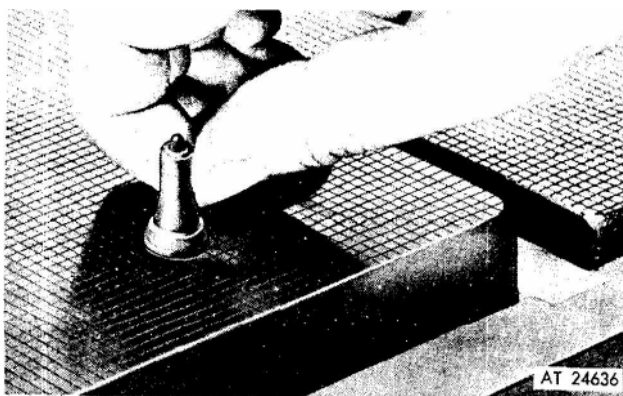

Figure 28. Lapping spray tip.
3. Place the part to be lapped on the block as shown in figure 28 and, using a figure eight motion, move it back and forth across the block. Do not press on the part, but use just enough pressure to keep the part flat on the block. It is important that the part be kept flat on the block at all times.